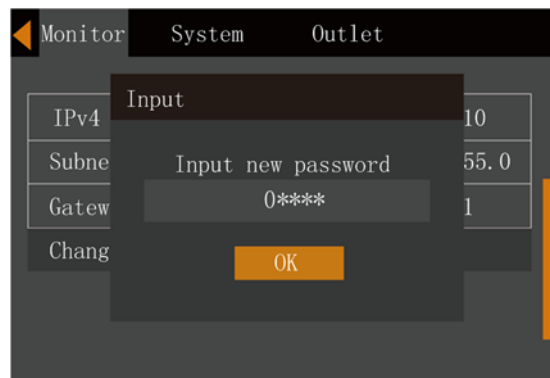

Figure 5-27 Entering the new password
4. Enter the current password and press the  key to confirm; at this point requests the user to enter a new password. See Figure 5-27.